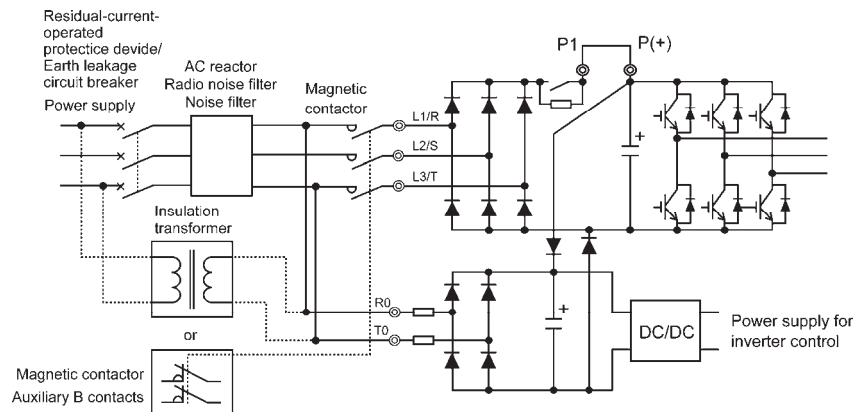

Figure 2.2-3 Connection Example of Residual-current-operated Protective Device (RCD)/Earth Leakage Circuit Breaker (ELCB)
**Note** When introducing a residual-current-operated protective device (RCD)/earth leakage circuit breaker (ELCB), connect its output (secondary) side to terminals R0 and T0. Connecting its input (primary) side to those terminals causes the RCD/ELCB to malfunction since the input power voltage to the inverter is three-phase but the one to terminals R0 and T0 is single-phase. To avoid such problems, be sure to insert an insulation transformer or auxiliary B contacts of a magnetic contactor in the location shown in Figure 2.2-3.